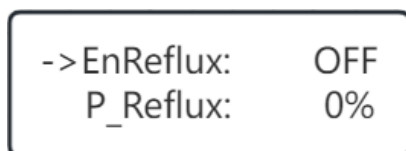
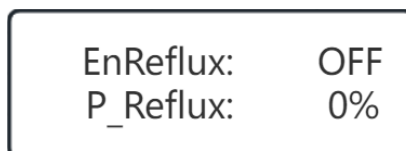

Figure 3.6-2 Setting the Anti-Backflow Status Menu
Figure 3.6-3 Setting the Backflow Status
- ③ Operate the [\wedge][V] keys to move the setting cursor to **【EnReflux】**, as shown in Figure 3.6-2. After long pressing both keys, the anti-backflow status starts to flash and the setting cursor disappears, as shown in Figure 3.6-3. At this time, you can turn on or off the anti-backflow function by operating the [\wedge][V] keys. After the setting is completed, long press both keys to exit the anti-backflow status setting, and the inverter automatically saves the set parameters.